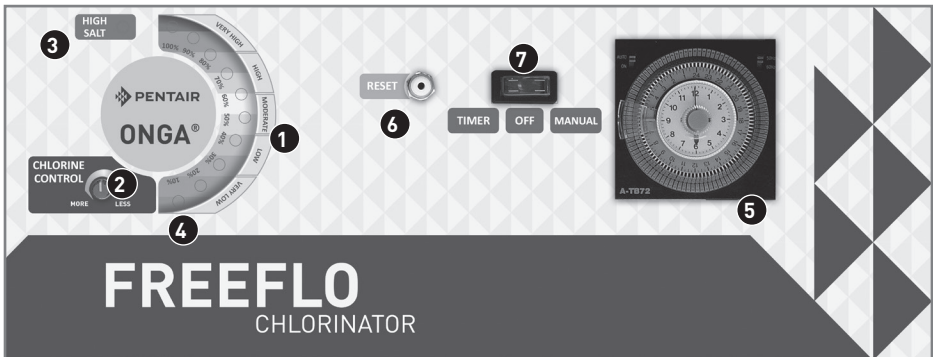

Fig.2
All Pentair Onga FREEFLO chlorinators are fitted with a 240v 10A power socket located on the right hand underside of the power pack. Your pool pump should be plugged into this socket so that the chlorinator and pump activate together when the timer switches on at the allocated time settings or in a model without a timer the pump and chlorinator is controlled by the on/off switch. (7 in fig 2). Failure to plug the pool pump into this socket could lead to the chlorinator staying on with no water circulation. In case of water probe failure, over heating and a possible gas build up may occur. *Please see fig.2 below in regards to function control.*
1. Chlorine Output LEDs – Fig.2
If the correct salt level is in the pool then all 10 lights will illuminate. Each light represents 10% chlorine output. If all lights are not illuminated then a higher salt level will be required. Make sure all salt is dissolved properly before adding more. The chlorine control, (2 in fig. 2), will increase or decrease the chlorine output to suit your chlorine demand. If all of the indicator lights flash then there is a water fault problem.
2. Chlorine Control – Fig. 2
3. High Salt Light – Fig 2
This light is a red warning indicator and will only illuminate when the salt level in the swimming pool is higher than 4500 parts per million. If this light is on, decrease the output by turning the chlorine control, (2 in fig.2), clockwise until the high salt (red light) goes off and the 10 chlorine output LEDs are on (1 in fig 2). If this light is the only one illuminated then the unit has gone into over temperature cutout and will reset once back to normal running temperature.
4. Polarity Light – Fig 2
The polarity light is the first indicator light, 10% in the chlorine output array, (4 in fig.2). This light will alternate between orange and green every reversing cycle, 4-12 hours. Factory setting is a 12 hour cycle.
5. Timer – Fig 2